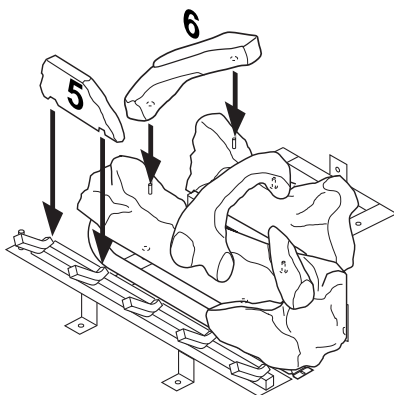

Figure 44 - Installing Logs No. 5 and No. 6
5. Place log #5 (base log) onto front left part of grate making sure notches fit over prongs of grate. See Figure 44.
6. Place log #6 (left log) onto two pins on left side of back and front log. See Figure 44.